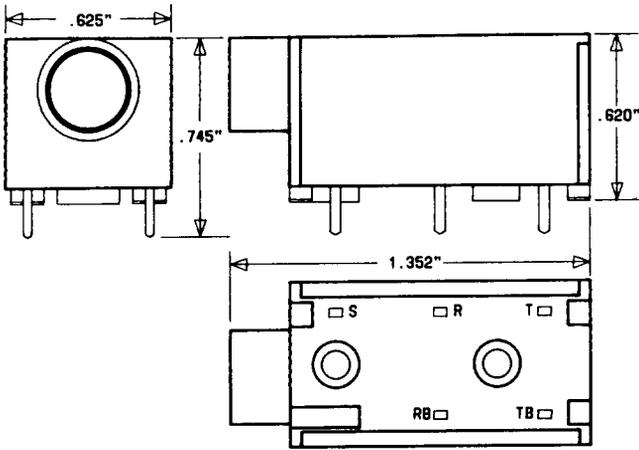

Fig. 14—KS-22080, L1 Through L14, Jacks
- 2.07 **KS-22080, L1 Through L14:** The KS-22080, L1 through L14, jacks (Fig. 14) are 3-conductor, single-type jacks that mount directly to a